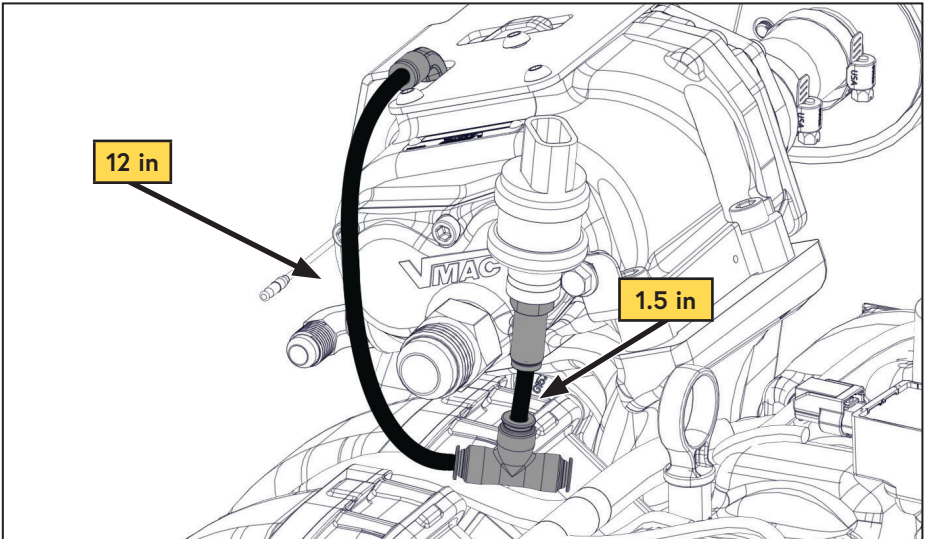

Figure 28 — Connect PTFE tubes
- Connect the 1/4 in PTFE scavenge tubes between the compressor, pressure switch, and Tee union (Figure 28).